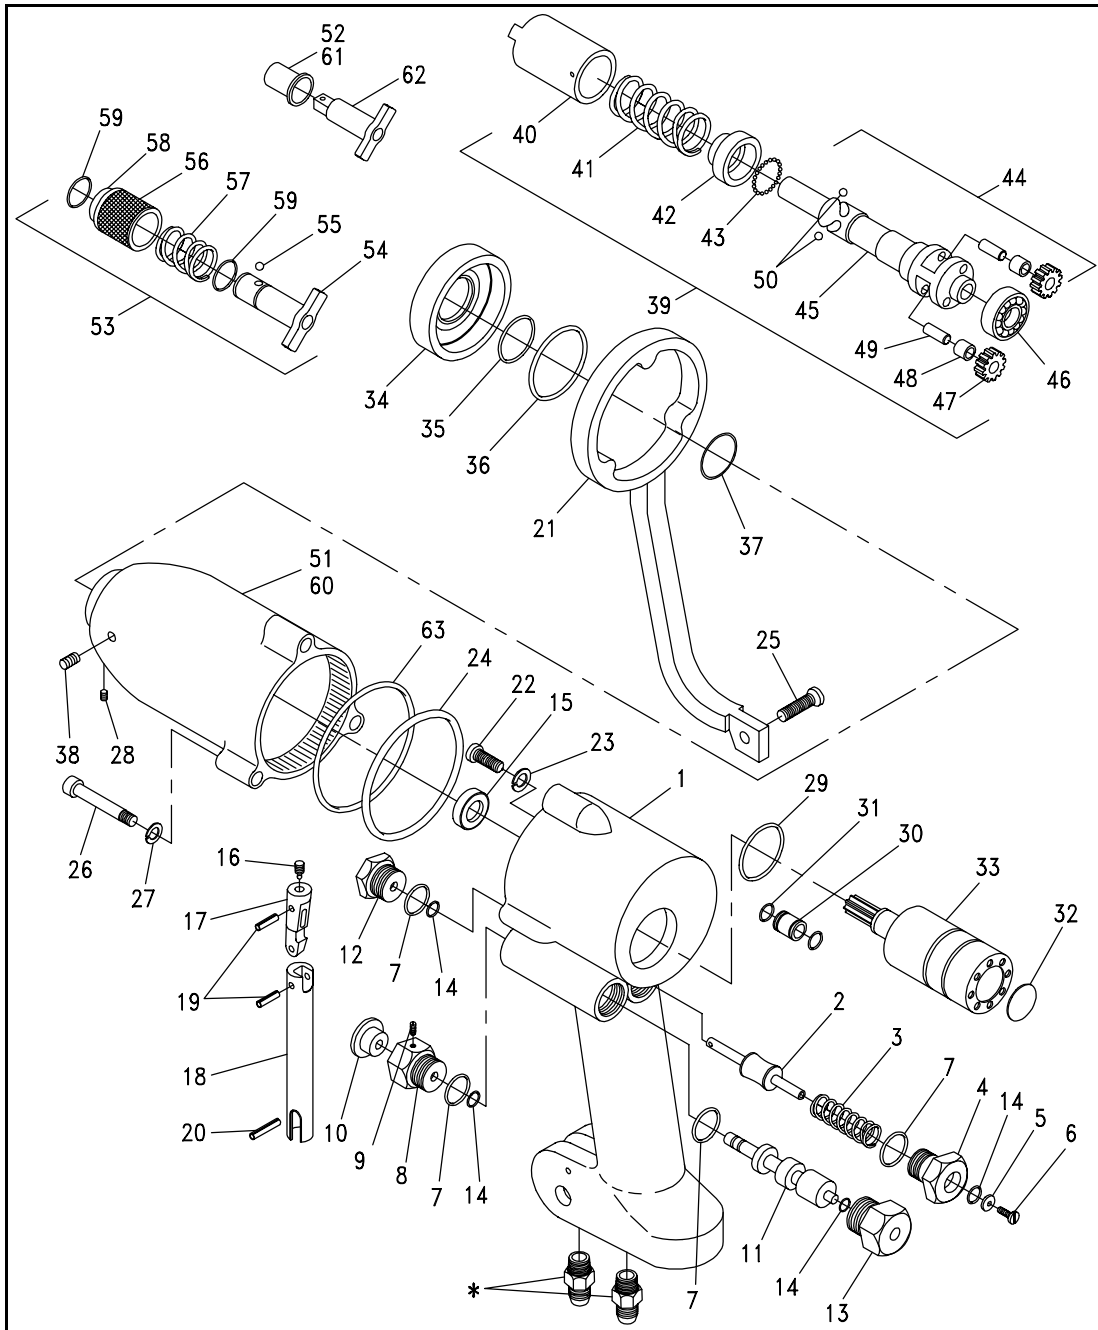

Figure L-3. IW06 Impact Wrench Components (Sheet 1).
- b. Install a new quad ring (14, Figure L-3) in detent cap (8) and seal cap (13).
- c. Install reversing spool (11) in valve bore, aligning locating pin with slot in valve sleeve.
- d. Position O-ring (7) around seal cap (13).
- e. Install seal cap (13) in valve bore.
- f. Position O-ring (7) around detent cap (8).
- g. Install detent cap (8) in valve bore.
- a. Figure L-3 illustrates the IW06 Impact Wrench components.